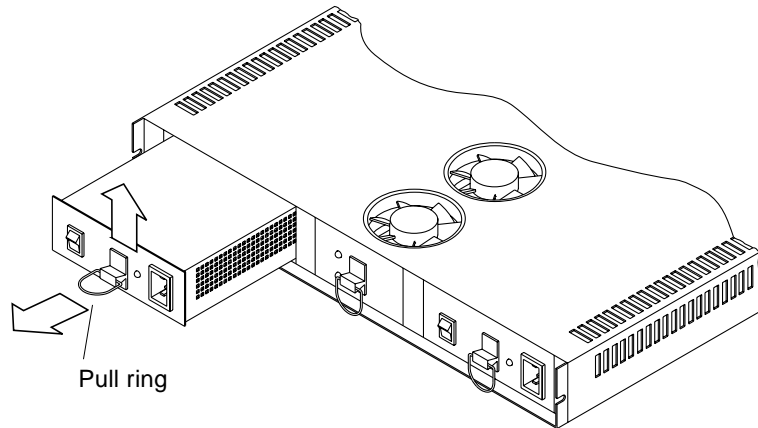

FIGURE 7-2 Removing a Power Supply Canister
- 4. Remove the failed power supply (FIGURE 7-2).**